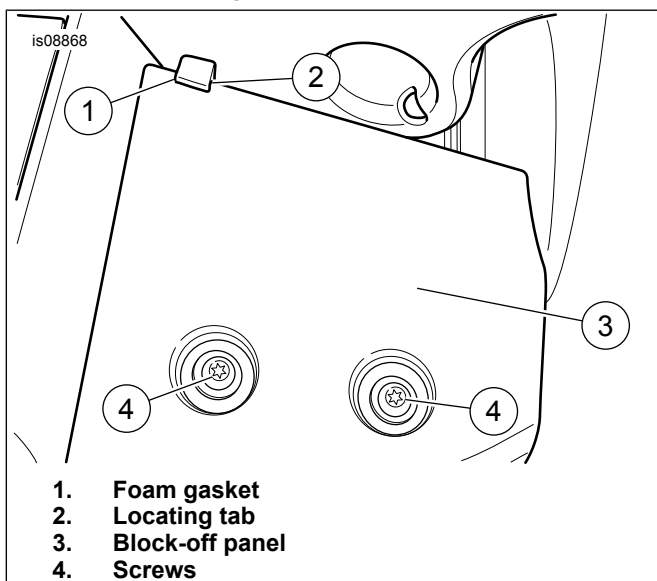

Figure 9. Block-off Panel and Locating Tab Foam
10. See Figure 9. Fold a piece of trimmed gasket (1) over the locating tab (2) of the block-off panel. Install the panel (3). Apply a drop of Loctite 243-Blue to the clean screw (4) threads. Install the screws. Tighten.